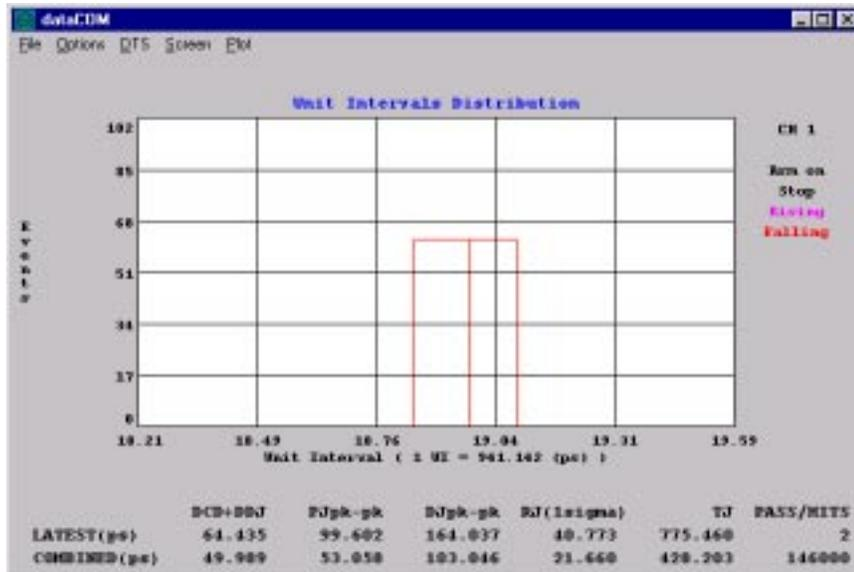

Figure 6.40 Zoomed dataCOM Plot – Unit Intervals Distribution
If you were to zoom in on a very narrow region of the Unit Interval Distribution you would see a graph similar to the one in Figure 6.40 which is displaying the jitter distribution for a single edge.
Figure 6.40 graphically displays the jitter distribution for a single edge. The leftmost vertical line represents its earliest occurrence while the rightmost vertical line represents its latest occurrence. The middle vertical line represents its mean occurrence. The edge occurrence information can be compared with theoretical edge positions based on the Unit Interval to isolate the jitter into various components.
The DCD+DDJ number comes from the maximum deviation of mean edge positions from their theoretical positions. The distributions of the data shown in Figure 6.40 around their mean edge positions is the result of the Periodic Jitter (PJ) and the Random Jitter (RJ). The PJ component is the measured “peak-peak” spectral component computed from an FFT of the variance data (shown in Figure 6.44). The RJ component is calculated using the RMS sum of each frequency bin between the RJ Fmax and Fmin frequencies. This technique is called the “Blackman-Tukey” algorithm for power spectral analysis and has been well documented in other text.
The Data Com “DCD + DDJ Jitter Histogram” panel in Figure 6.41 is displaying the “normalized accumulation” of all the DCD + DDJ measurements taken during the run shown in Figure 6.40. The width of this plot is normalized to one Unit Interval of the data period.